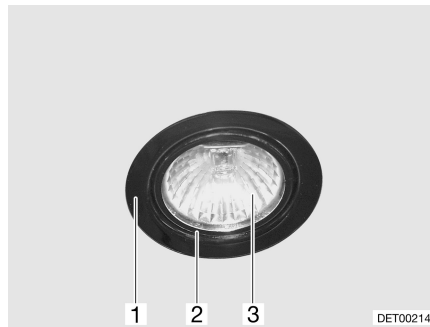

Fig. 91 Recessed halogen light
- Use a suitable tool (e.g. a screwdriver) to lever out and remove the lamp (Fig. 91,1).
- Take the inner ring (Fig. 91,2) out of the lamp.
- Remove cover (Fig. 91,3).